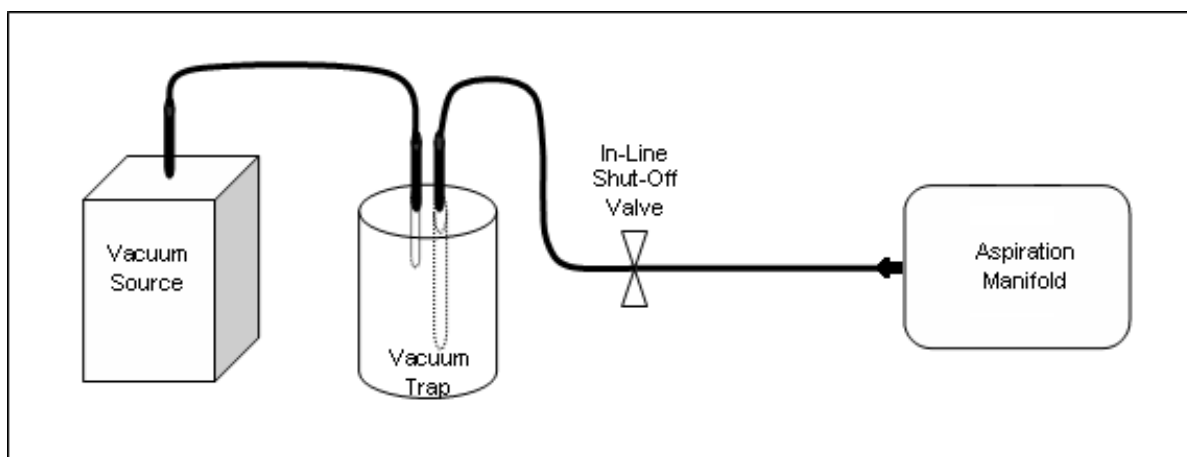

Figure 4. Manifold setup: Connection to Vacuum Source.
1. The cleaning procedure for the Dispensing Manifold is to aspirate wash solutions through the Dispensing Tubes and out the Quick Connect Fitting (10). This procedure requires the use of a vacuum source such as a pump or a central or "house" vacuum system.
2. Attach one end of a vacuum hose to the nozzle Quick Connect Fitting (10) on the Manifold (Figure 1c) and other end to a shut-off valve (Figure 4). Place a vacuum trap to collect aspirated liquid between the shut-off valve and vacuum source.
3. Make sure Quick Connect Fitting (10) and Syringe or Bottle Top Dispenser are *connected* the Manifold before using for aspirating. Alternatively, attach a Luer Lock plug cap to Luer Lock Fitting (5) on top of Manifold.